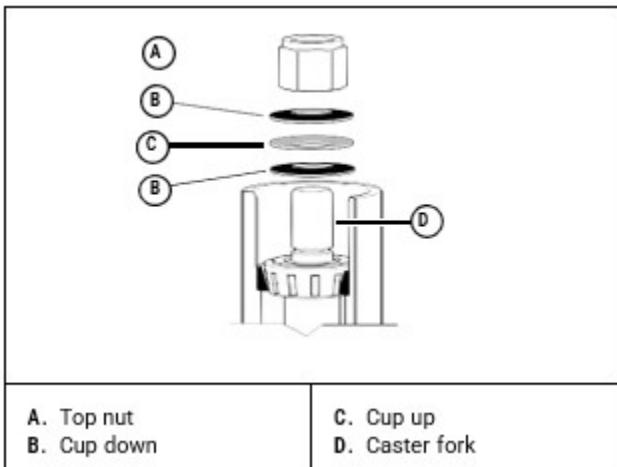

Figure 34
- IMPORTANT:** Stack the cup washers as shown in [Figure 34].
12. Torque the top nut to 40 ft-lbs (55 N•m), then back off 1/4 turn. Figure 34